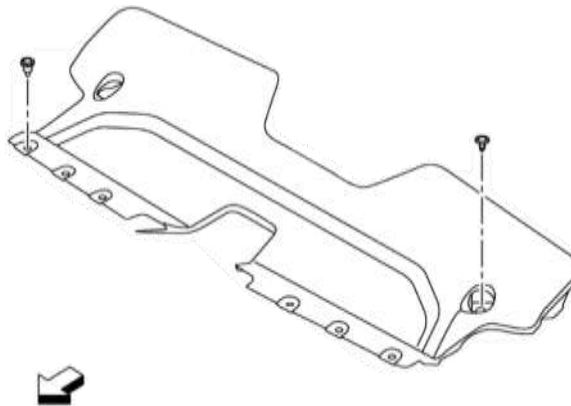

Figure 2
4. Remove the (8) eight plastic clips that secure the Air Duct on the top of the Front Bumper Fascia. Remove the Air Duct and set aside. *Figure 2.*